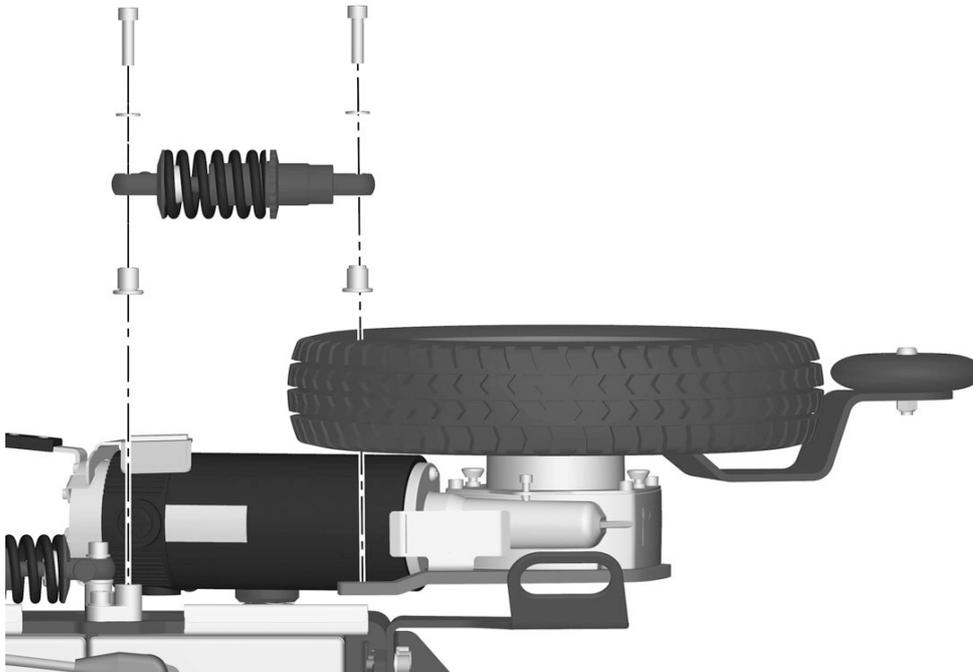

Figure 53. Fitting/removing the front shock absorber.
5. Remove the shock absorber, it's fitted with two screws and washers. See fig. 53.
1. Fit the shock absorber using the two screws and washers. Tighten the screws using a torque wrench. **Tightening torque: 24 Nm / 17.7 Ft/lbs** See fig. 53.
5. Remove the shock absorber, it's fitted with two screws and washers and a nut. See fig. 53 *Fitting/removing the front shock absorber..*
**Tightening torque: 24 Nm / 17.7 Ft/lbs** See fig. 53.